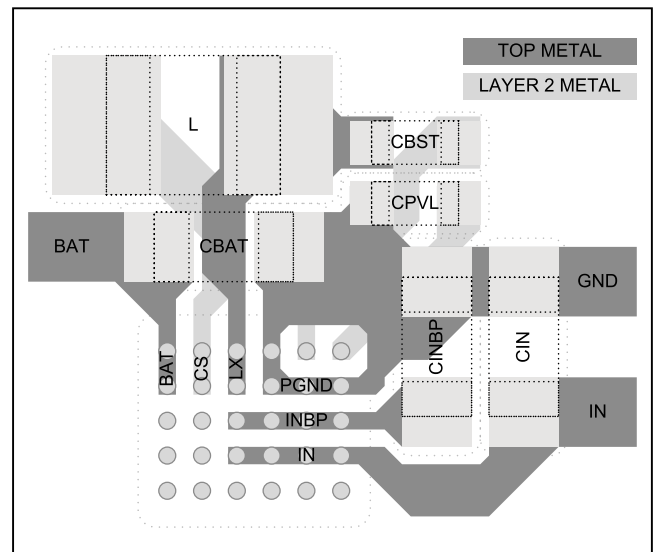
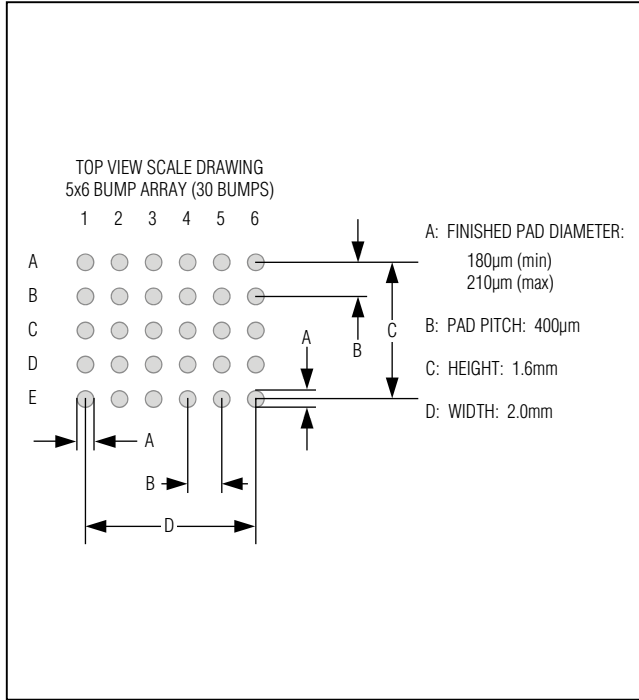
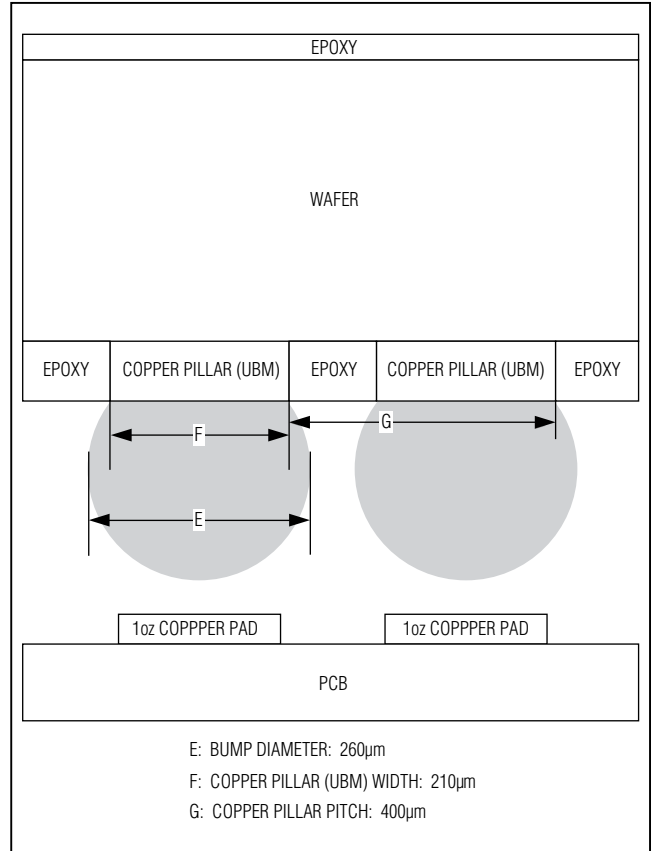

Figure 14. Power PCB Layout Example
Figure 15. Recommended Land Pattern
Figure 16. Bump Cross Section and Copper Pillar Detail
Figure 15 shows the recommended land pattern for the MAX8900_. Figure 16 shows the cross section of the MAX8900_'s bump with detail of the under-bump metal (UBM). The diameter of each pad in the land pattern is close to the diameter of the UBM. This land pattern to UBM relationship is important to get the proper reflow of each solder bump.
Careful printed circuit layout is important for minimizing ground bounce and noise. Figure 14 is an example layout of the critical power components for the MAX8900_. The arrangement of the components that are not shown in Figure 14 is less critical. Refer to the MAX8900 Evaluation Kit for a complete PCB layout example. Use the following list of guidelines in addition to Application Note 1891: *Wafer-Level Packaging (WLP) and Its Applications* (www.maximintegrated.com/ucsp) to layout the MAX8900_ PCB.
- 5) In Figure 14, the CS node is connected to the second layer of metal with vias. Use low-impedance vias that are capable of handling 1.5A of current. Also, keep the routing inductor current path on layer 2 just underneath the inductor current path on layer 1 to minimize impedance.
- 6) Both C_{BST} and C_{PVL} deliver current pulses for the MAX8900's MOSFET drivers. These components should be placed as shown in Figure 14 to minimize parasitic impedance.
In Figure 14, many of the top layer bump pads are connected together in top metal. When connecting bumps together with top layer metal, the solder mask must define the pads from 180 μ m to 210 μ m as shown in Figure 15. When using solder mask defined pads, please double check the solder mask openings on the PCB Gerber files before ordering boards as some PCB layout tools have configuration settings that automatically oversize solder mask openings. Also, explain in the PCB fabrication notes that the solder mask is not to be modified. Occasionally, optimization tools are used at the PCB fabrication house that modify solder masks. Layouts that do not use solder mask defined pads are possible. When using these layouts, adhere to the recommendations A through G above.